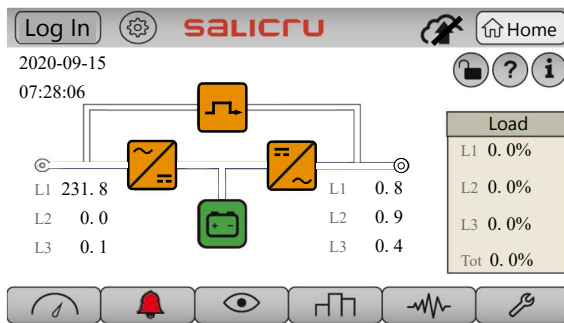

Fig. 65. Main screen with EPO emergency stop activated. No power flow represented, there is no output voltage.
- Critical loads are still not supplied, but the UPS is already in stand-by or initial state, without critical alarms. Check that "Emergency Power Off" alarm has disappeared, and the UPS Status is "UPS ON / Stand-By". The unit synoptic still corresponds to Fig. 65 (unit stopped, no active energy Flow).